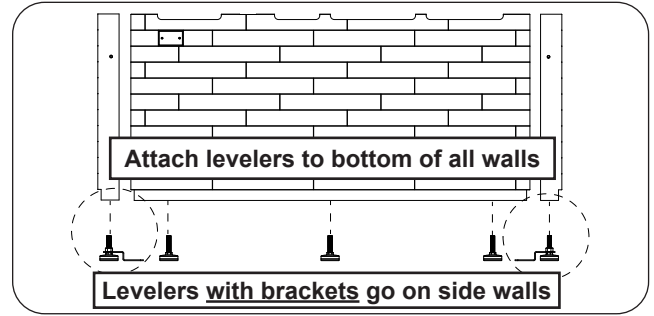

Fig. 8-1 Attach levelers
2. Carefully lay down all pieces that make up the island base and attach the levelers (see Fig. 8-1).
**Note:** 4 of the levelers have floor mounting brackets pre-installed. Use 2 on each side wall. See Fig. 8-1.